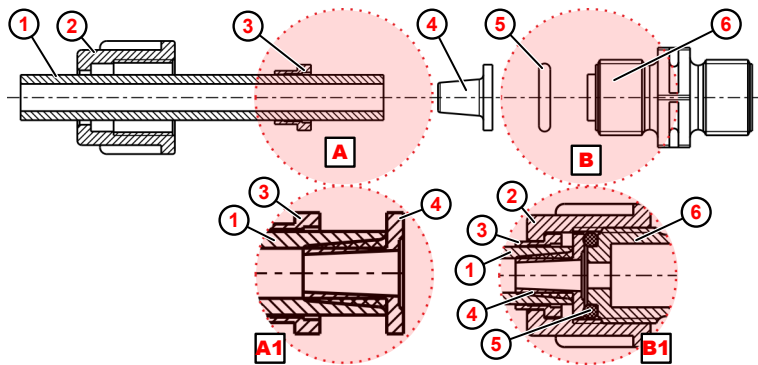

Fig. 7: Pipe-to-hose connection with tapered part
1. ➤ Cut off the hose with a straight cut (Fig. 7, ①).
2. ➤ Slide the union nut ② over the hose ①.
3. ➤ Slide the clamp ③ over the hose ①.
4. ➤ Slide the hose ① onto the tapered part ④ up to the stop collar (for details, A1).
5. ➤ Slide the tensioning piece ③ towards the tapered part ④ until you feel resistance.
6. ➤ Place the o-ring ⑤ in the groove of the suction or pressure valve ⑥.
7. ➤ Tighten the union nut ② (for details, see B1).